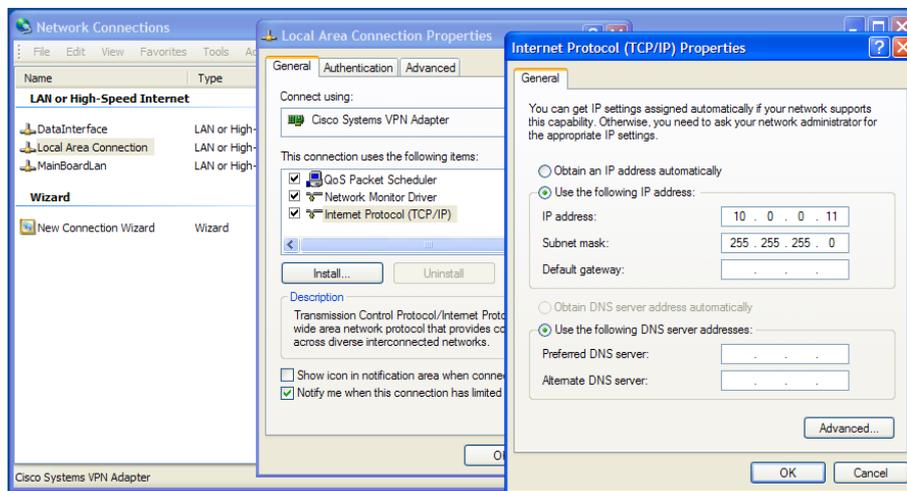

Figure 8.2 Setting static IP address 10.0.0.11 in Windows XP
1. Connect an Ethernet cable directly between the PC and the Ethernet control port of the TNS546. Configure the PC to be on the same sub net as the TNS546. See Figure 8.2.
The screen-shot in Figure 8.2 shows how to configure the network interface in Windows XP to communicate with the TNS546 with factory default settings. The IP address/netmask is set